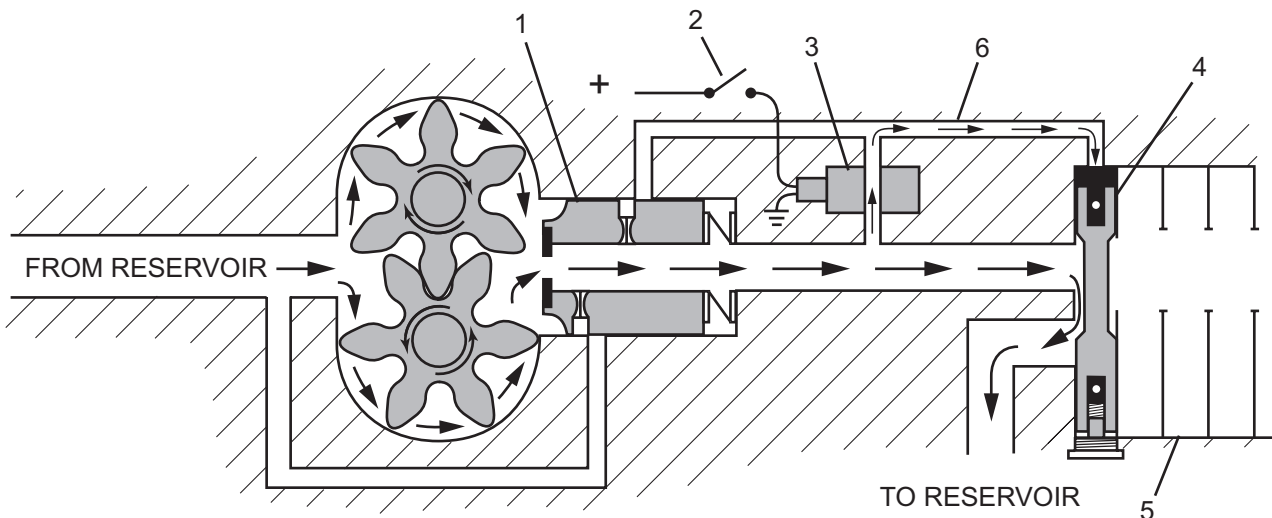

Figure 23
- Flow control not shifted (Figure 23, Item 1)
- Pump switch OFF (Figure 23, Item 2)
- N.O. valve in OPEN position (Figure 23, Item 3)
- Inlet unloader valve in UNLOADED position (Figure 23, Item 4)
When warming up the truck in the morning, the pump switch is a manual way of redirecting oil flow, bypassing the spool valve assembly (Figure 23, Item 5). You can direct oil directly to the reservoir by turning the pump switch OFF, opening the N.O. valve.
When the N.O. valve is open, pilot pressure oil (Figure 23, Item 6) moves the inlet unloader valve to the UNLOADED position, bypassing the spool valve assembly, diverting all oil directly to the reservoir.